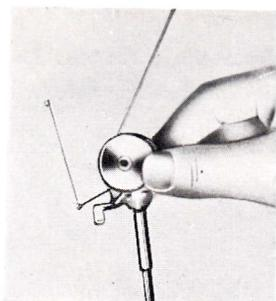

Fig 11
- d. Set the automatic yarn feeder on the automatic yarn feeder rod. Make sure the automatic yarn feeder rotates smoothly to the right and left direction. (See Fig. 11)